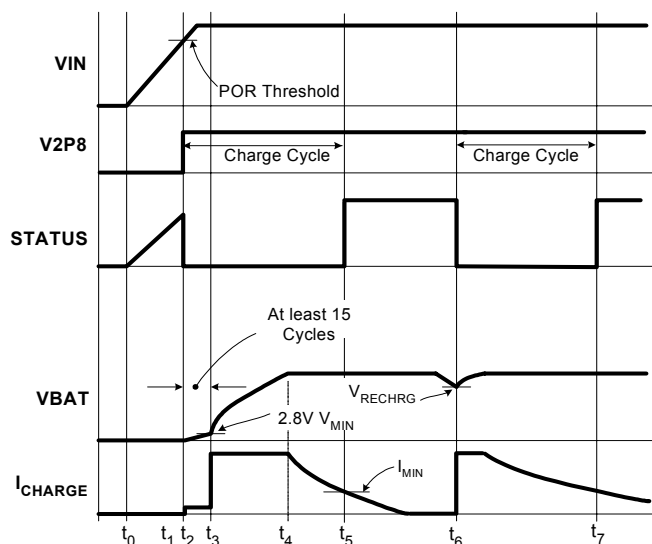

FIGURE 20. OPERATION WAVEFORMS
Figure 20 illustrates the typical signal waveforms for the linear charger from the power-up to a recharge cycle. More detailed Applications Information is given below.
The ISL9203R5220 resets itself as the input voltage rises above the POR rising threshold. The V2P8 pin outputs a 2.8V voltage, the internal oscillator starts to oscillate, the internal timer is reset, and the charger begins to charge the battery. The STATUS pin indicates a LOW logic signal. Figure 20 illustrates the start up of the charger between t_0 to t_2 .
A charge cycle consists of three charge modes: trickle mode, constant current (CC) mode, and constant voltage (CV) mode. The charge cycle always starts with the trickle mode until the battery voltage stays above V_{MIN} (2.8V typical) for 15 consecutive cycles of the internal oscillator. If the battery voltage drops below V_{MIN} during the 15 cycles, the 15-cycle counter is reset and the charger stays in the trickle mode. The charger moves to the CC mode after verifying the battery voltage. As the battery-pack terminal voltage rises to the final charge voltage V_{CH} , the CV mode begins. The terminal voltage is regulated at the constant V_{CH} in the CV mode and the charge current is expected to decline. After the charge current drops below I_{MIN} (1/10 of I_{REF} , see End-of-Charge Current for more detail) for 16 cycles of an internal oscillator, the ISL9203R5220 indicates the end-of-charge (EOC) with the STATUS pin. The charging actually does not terminate. Signals in a charge cycle are illustrated in Figure 20 between points t_2 to t_5 .
recharge threshold, V_{RECHRG} (see Electrical Specifications). Then the STATUS pin goes low and a new charge cycle starts at point t_6 . The charge cycle ends at point t_7 with the STATUS pin again going high, as shown in Figure 20.
The EOC current I_{MIN} sets the level at which the charger starts to indicate the end of the charge with the STATUS pin, as shown in Figure 20. The charger actually does not terminate charging. In the ISL9203R5220, the EOC current is internally set to 1/10 of the CC charge current, that is,